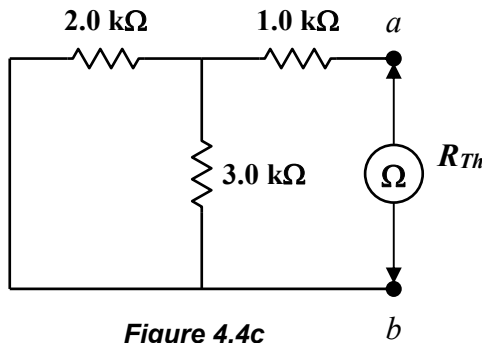

Figure 4.4c
17. **Turn off** the power supply and disconnect it. Replace the power supply with a short-circuit, e.g., a jumper wire (**Figure 4.4c**).
18. Measure the resistance across terminals a and b (**Figure 4.4c**). This is R_{Th} . In this circuit, it should be seen that R_{Th} is the 1-k Ω resistor in series with the parallel combination of the 2.0 k Ω and the 3.0 k Ω . Record the *measured* R_{Th} in the third column of **Table 4-3**.